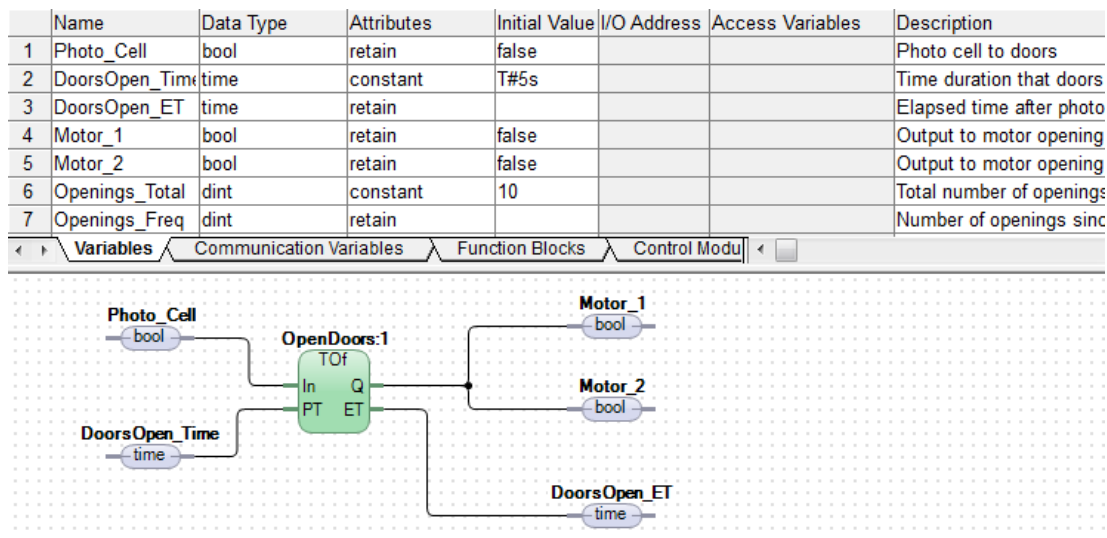

Figure 35. Variable connections to OpenDoors Function Block
4. Insert the variables **Motor\_1**, **Motor\_2**, and **DoorsOpen\_ET** using any of the methods. Connect these three variables to the parameters as in Figure 35.